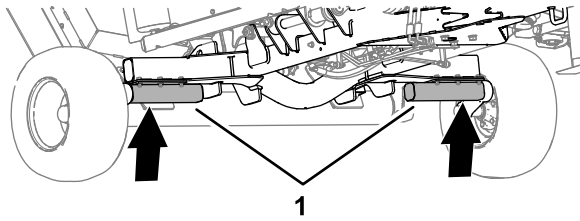

Figure 39
1. Lift the mower at the axle halves as shown in Figure 39.